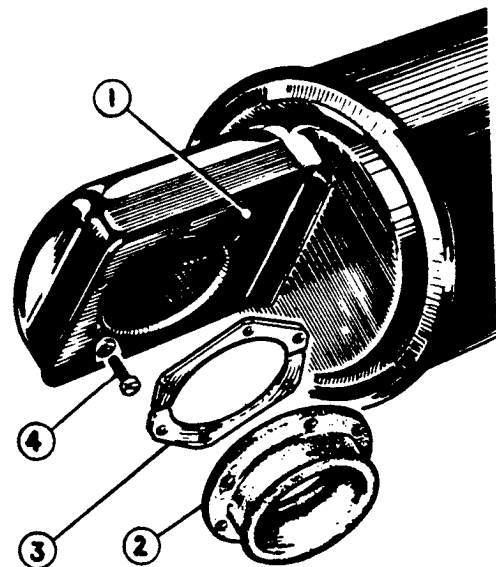

FIG. 2.
4. Clean and tin the new cover plate, RE-9868, (1, Fig.2) to correspond with the supporting strip, fit the plate and sweat in position as shown (the new plate should be fitted with the lip of the orifice uppermost). Roll back the lapped edge as before, and then touch up both plate and edges with black enamel.
5. Pass the new rubber connection piece, RE-9691, (2, Fig.2) through the orifice of the new cover plate, flanged end first, and then coincide the six screw holes in its flange with those drilled in the plate. Next pass the new metal retaining plates, RE-9690 (3, Fig.2) through the orifice of the rubber connection piece, coincide the holes, and secure in position by means of the six 3-BA setscrews (4, Fig.2) supplied.